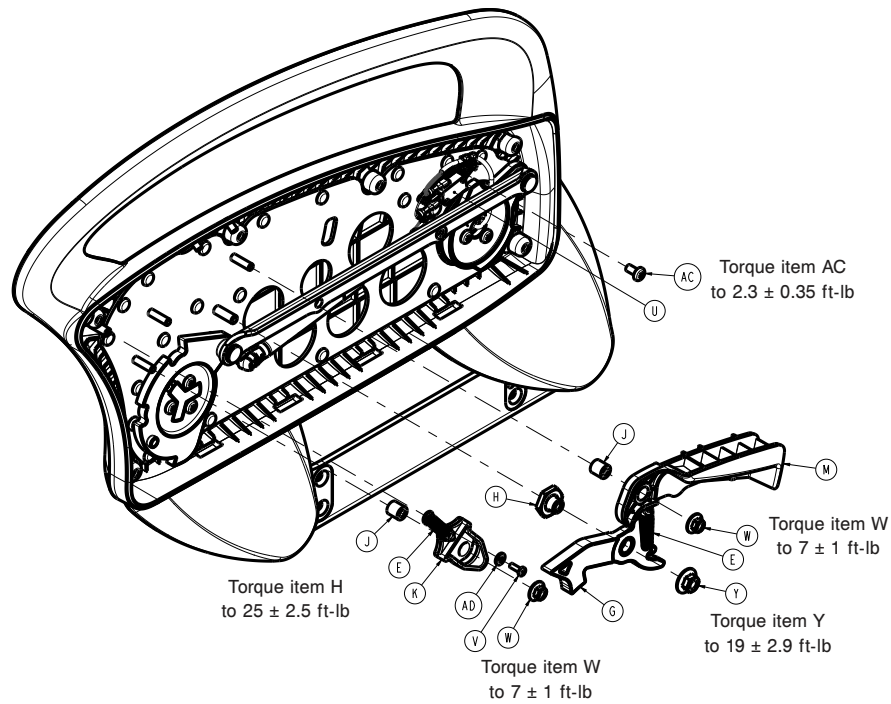

Figure 42 – Replacing the foot siderail hoop
8. Using a T20 Torx driver, remove the screw (V) and washer (AD) holding the spring (E) to the siderail hoop for the siderail detent paw (Figure 42).
9. Using a T30 Torx driver, remove the screw (AC) that secures the siderail position switch (U) to the siderail hoop (Figure 42). Pull out the cable retainer. Remove and save the switch.
10. Using a ratchet and a 1/2" socket, remove the nut (W) that secures the latch activation lever and the siderail detent paw (Figure 42). Remove and save the activation lever and detent paw.
11. Using a ratchet and a 9/16" socket, remove the nut (Y) that secures the siderail latch (G) to the siderail hoop (Figure 42). Remove and save the latch.
9. Using a T30 Torx driver, remove the screw (AC) that secures the siderail switch assembly (U) and bracket to the siderail frame (Figure 42).